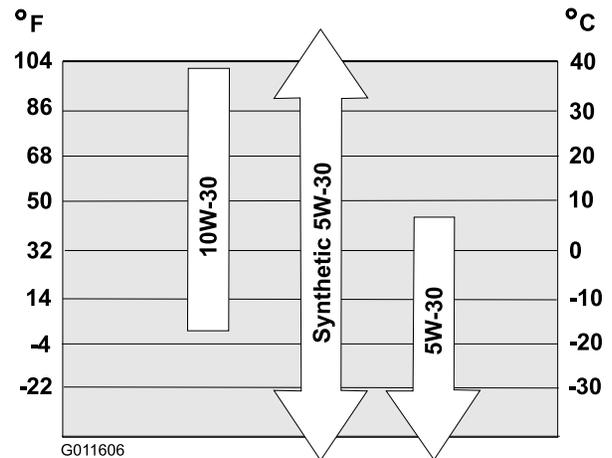

Figure 28
Use Figure 28 to select the best oil viscosity for the outdoor temperature range expected:
**Note:** Fill the engine crankcase with oil until the dipstick indicates that the engine oil level is correct as shown in Figure 28. If you overfill the engine with oil, remove the excess oil from the drain plug into an oil drain pan.